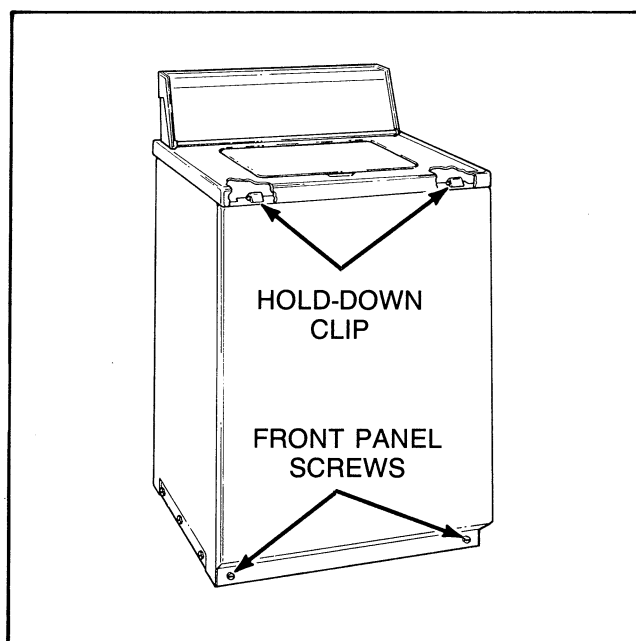

Figure 14
13. FRONT PANEL (Refer to Figure 14)
- a. Remove two screws from bottom edge of front panel, *Figure 14*.
- b. Pull bottom of panel away from washer until hold-down clips (located on top flange of panel) disengage from slots in cabinet top, *Figure 14*.
- Remove two screws from bottom edge of front panel, *Figure 14*.